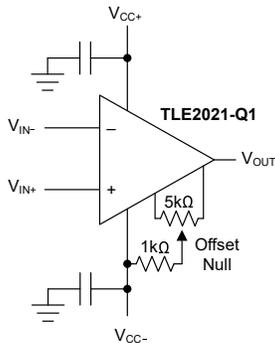

Figure 6-2. Input Offset Voltage Null Circuit
The TLE202x-Q1 series offers external null pins that further reduce the input offset voltage. Figure 6-2 shows how to connect the circuit if this feature is desired. Adjust the external resistance value to achieve desired performance. When external null is not needed, leave the null pins disconnected. Only use this adjustment to null the offset of the operational amplifier. Do not use this adjustment to compensate for offsets created elsewhere in a system because of the possible introduction of additional temperature drift.
- Updated Figure 6-2, *Input Offset Voltage Null Circuit* 23